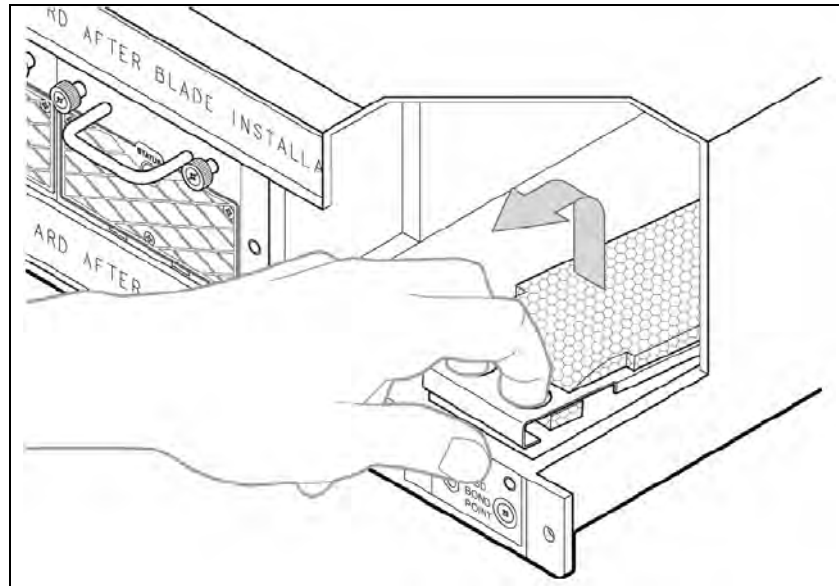

Figure C.12 - Bottom Air Filter Removal
4. Insert two fingers in the round holes at the front of the bottom air filter frame and pull the frame upward and out of its compartment (**Figure C.12**). If you cannot remove the frame with your fingers, you can also use a tool such as a screwdriver.